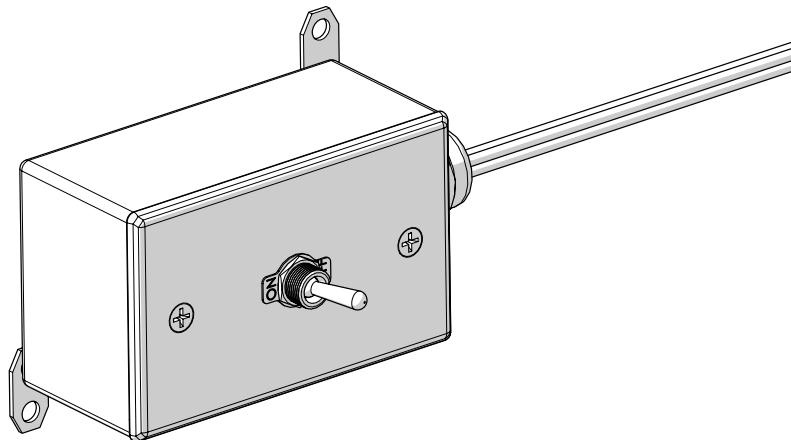

Figure 6: Control box mounting
3. The control box now needs to be mounted in a location that is easily accessible for operation. Insert bolts through the metal tabs on the back of control box for optimal mounting. See Figure 6 on page 8.